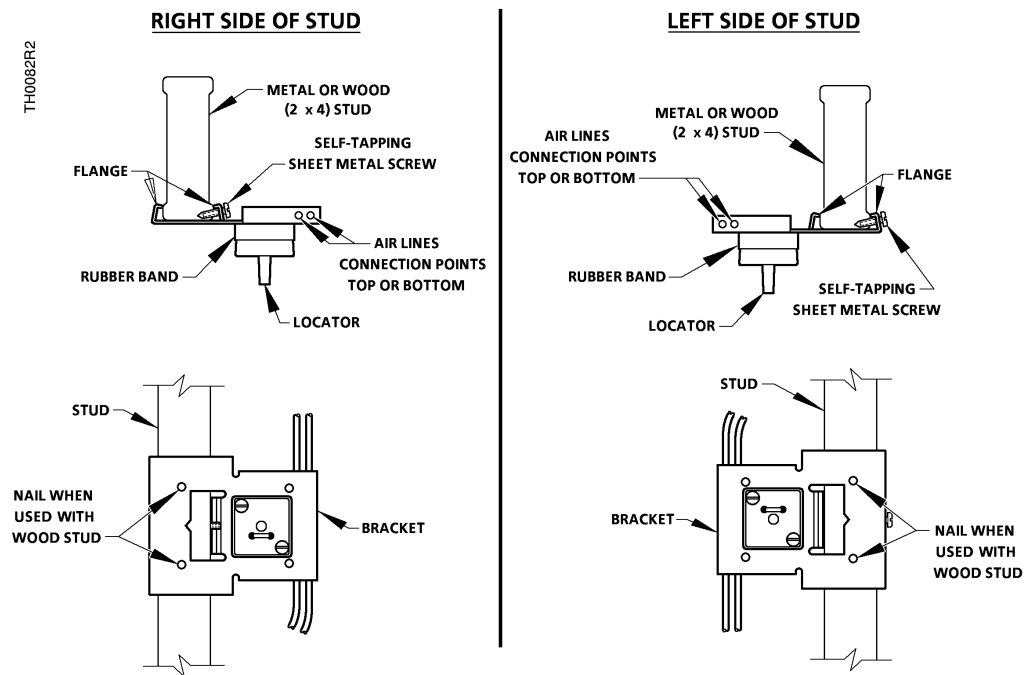

Figure 11. Drywall Mounting Bracket Positions.
- F. Tube retainer (2)
This kit is designed to be used on metal studs (metal 2 x 4s), but can also be used on conventional wooden 2 x 4s. The quick mounting bracket (D) provided with this kit permits it to be fastened securely to the stud with a single self-tapping sheet metal screw. As shown in Figure 11, the bracket can be mounted on either side of the stud. Ideally, the self-tapping screw should always be driven through the appropriate flange on the bracket so that the screw point bears against or pierces the solid (as opposed to open) side of the stud. However, if the situation requires it, the screw can be driven through the opposite flange and into the lip on the open side of the stud.